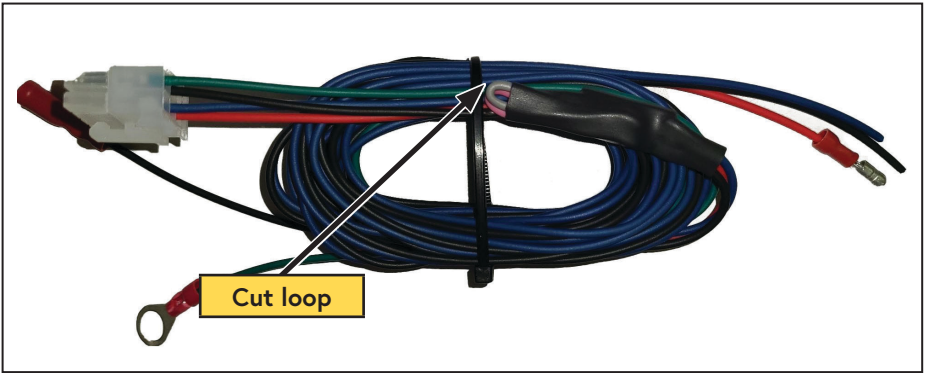

Figure 61 — Disable pull up harness
- Cut the loop of grey wire from the black module on DTC main harness the (Figure 61).